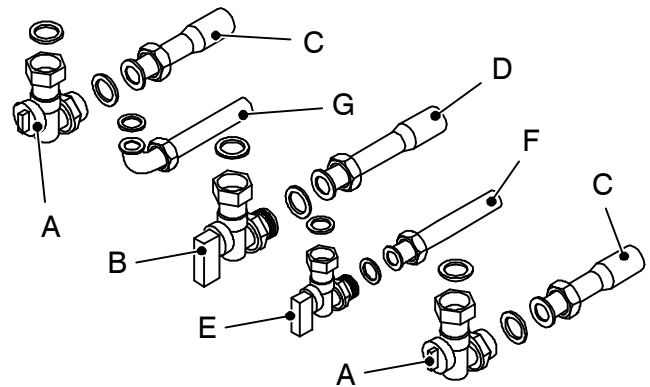

fig. 6.3
- 4 Fix the c.h. valves A and gas cock B ($\frac{3}{4}$ ") to the boiler using the $\frac{3}{4}$ " gaskets (fig. 6.3)